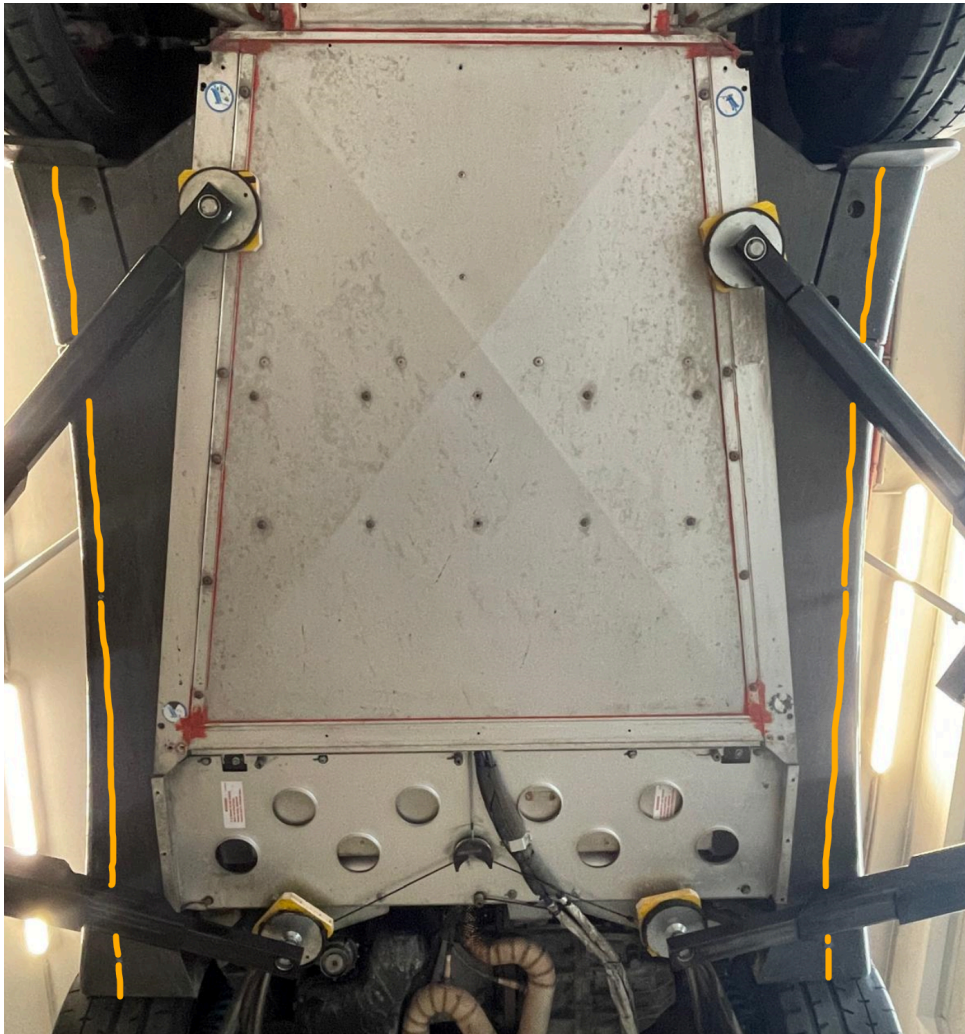

Fig 11: Put double sided tape (39) along the marked lines.
14. Put double sided tape (39) along the marked line as shown in *Fig 11*. This prevents dirt from getting into the area underneath the chassis.